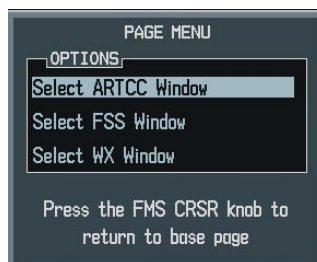

Figure 5-56 Nearest Frequencies Page Menu
- 1) With the Nearest Frequencies Page displayed, press the **MENU** Key (Figure 5-56).